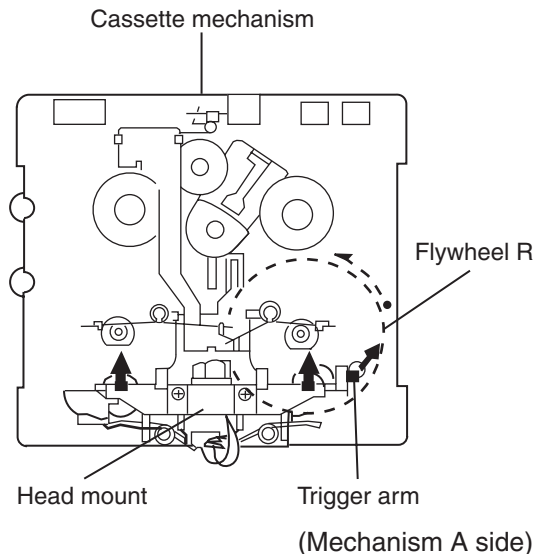

Fig. 1
### ■ Removing the playback/recording and eraser heads (See Fig. 1~3)
1. While shifting the trigger arms seen on the right side of the head mount in the arrow direction, turn the flywheel R in counterclockwise direction until the head mount clicks. (See Fig. 1)